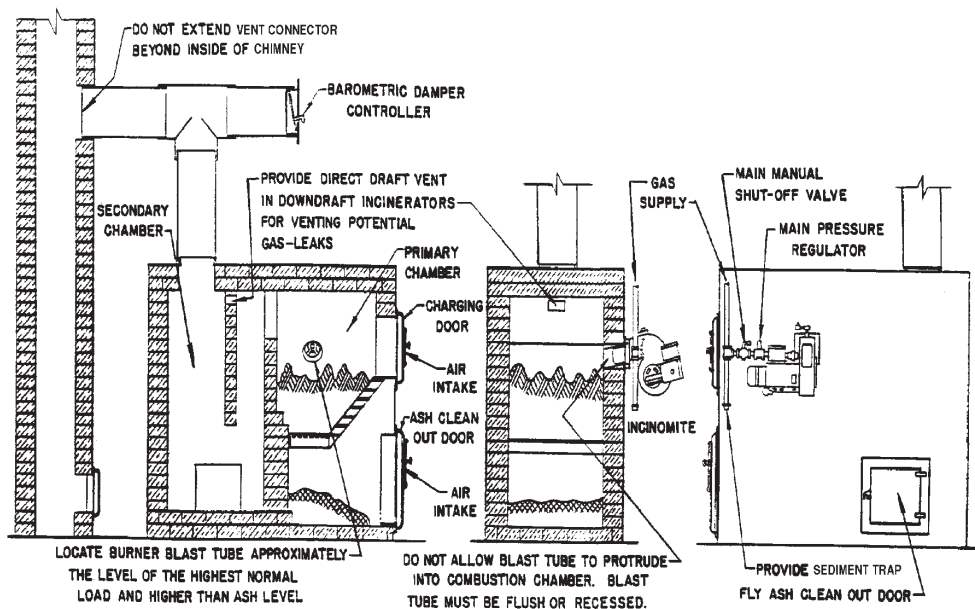

Figure 1 - Typical Installation
**⚠ CAUTION:** If the incinerator is of the down draft design, make sure that a direct draft vent opening of approximately 10 square inches has been put through the top of the drop section(s) to provide for the venting of any gas leakage. See Figure 1.
A suitable Main Gas Pressure Regulator should be installed as shown in Figures 1 or 3. Choose a regulator(s) to adjust the available gas pressure to the pressure shown in SPECIFICATIONS, page 2.